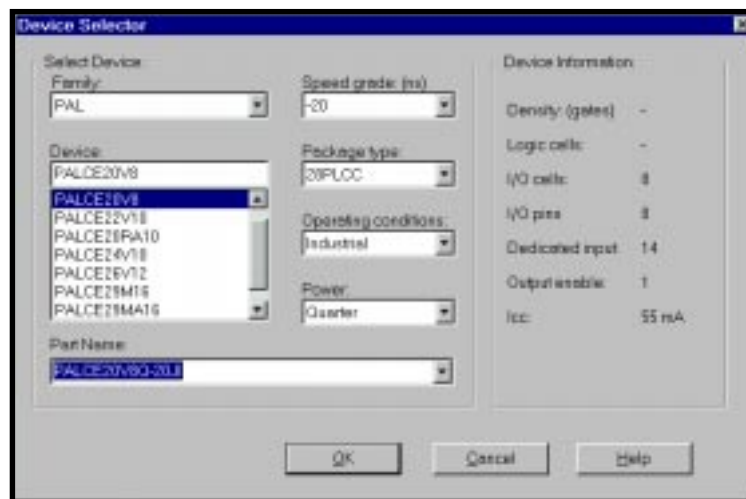

Figure 2-3. Device Selector Dialog Box
1. In the Sources window, double-click the Target Device icon to open the Device Selector dialog box (Figure 2-3). The Device Selector dialog box contains all available devices and their options.